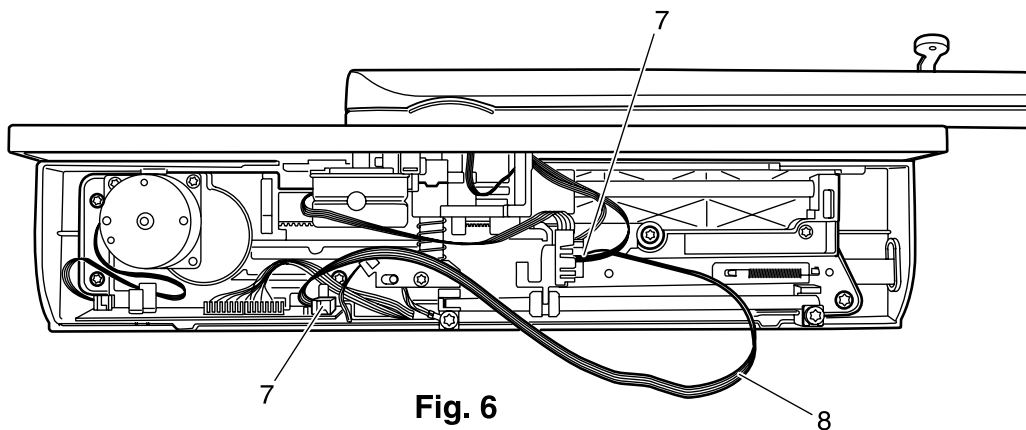

**Fig. 6**
1. Pull off the plugs 7 of the connecting cable 8 at the small and big circuit board (Fig. 6).